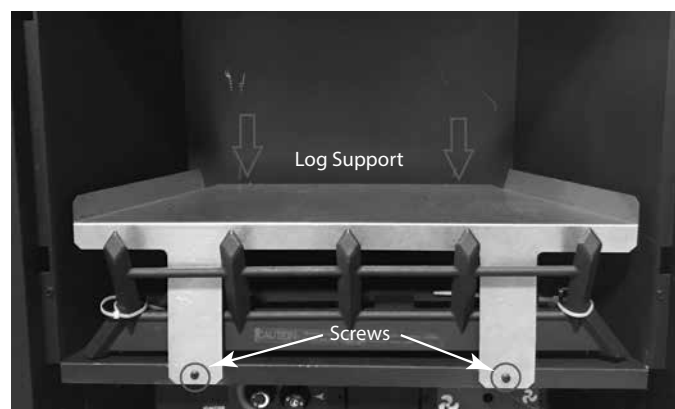

Figure 16a
4. Remove and discard logs support and screws. Figure 16a.